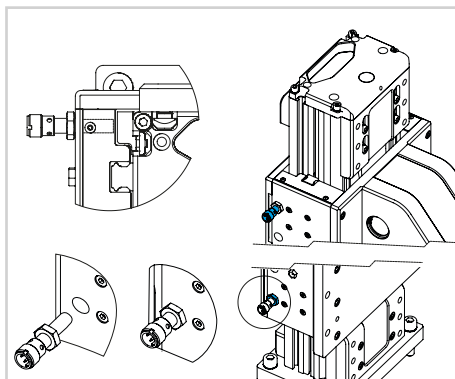

Fig. 28
- 4) Insert the proximity switch on the carriage plate, and tighten it until it gets in contact with the sensor dog. Then loosen it for 1/2 turn to bring it to the correct distance (Fig. 28).
- 5) Tighten the proximity switch in position by tightening the lock nut (Fig. 28).